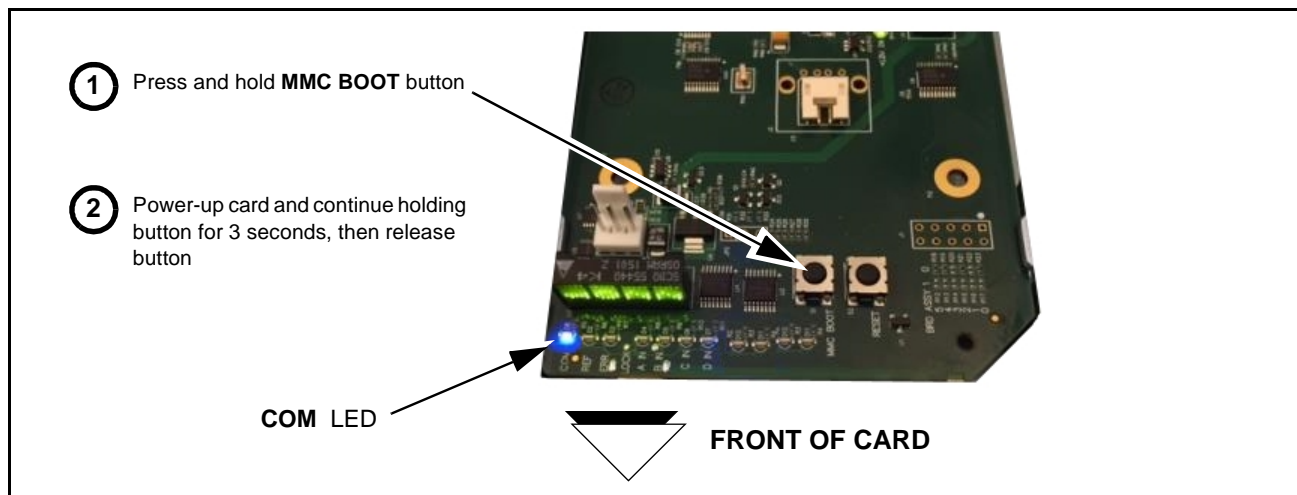

Figure 3-9 MMC Boot Button
2. (See Figure 3-9.) With card powered-down, locate the **MMC BOOT** button on the card. Proceed as shown in picture.